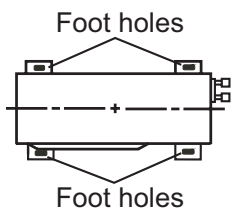

Fig. 20
- (1) Place the outdoor unit on the support.
- (2) Fix the foot holes of outdoor unit with bolts.
- (As show in Fig.20)